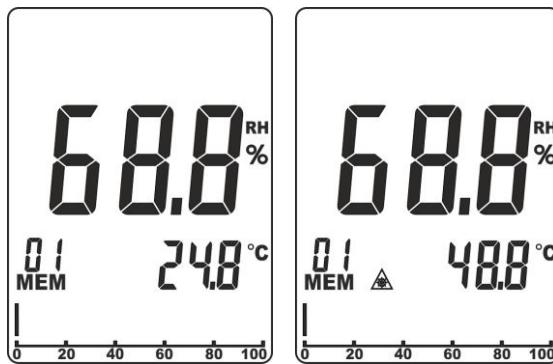

Fig. 10: Infrared temperature measurement (IRT)
3. Air temperature is shown on the secondary display (see Fig. 10 – left side).
4. Press key **IRT/△** to activate IRT measurement. The laser pointer activates for a moment and symbol “**△**” appears on the display until measurement is completed. The value of IRT temperature is shown on the secondary display for approx. 15s (see Fig. 10 – right side) and, subsequently, the instrument automatically goes back to air temperature measurement.